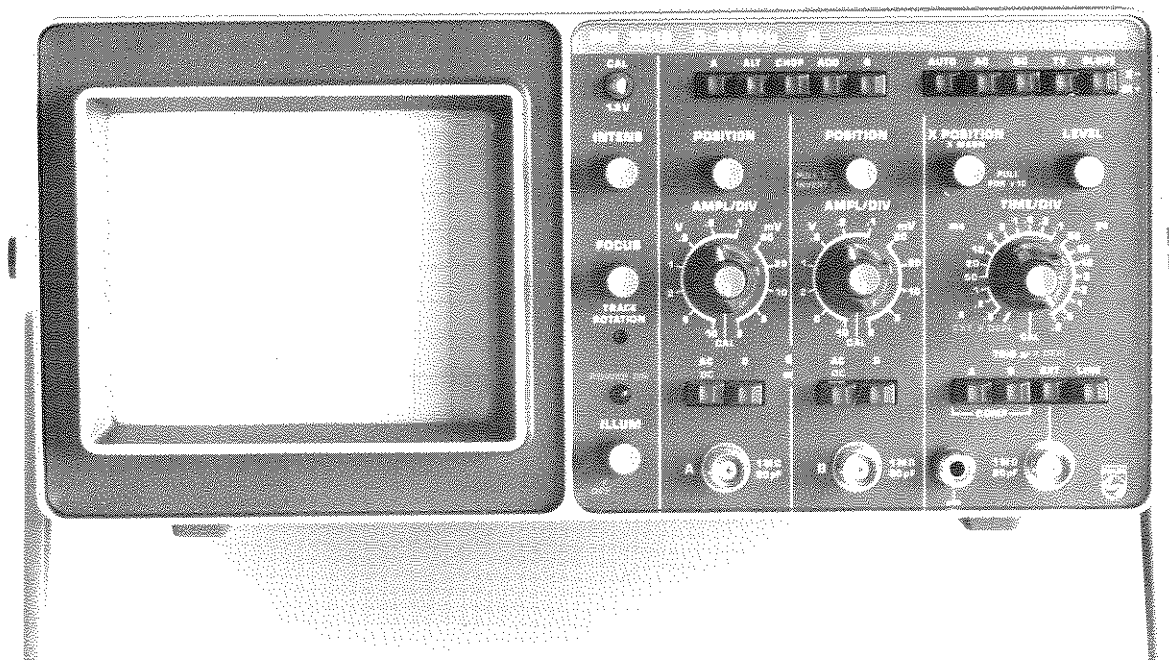

Fig. 2.2. Front view of the oscilloscope showing controls and sockets
2.2. CONTROLS AND SOCKETS (refer to fig. 2.2.)
Refer to Fig. 2.2. for location of controls.